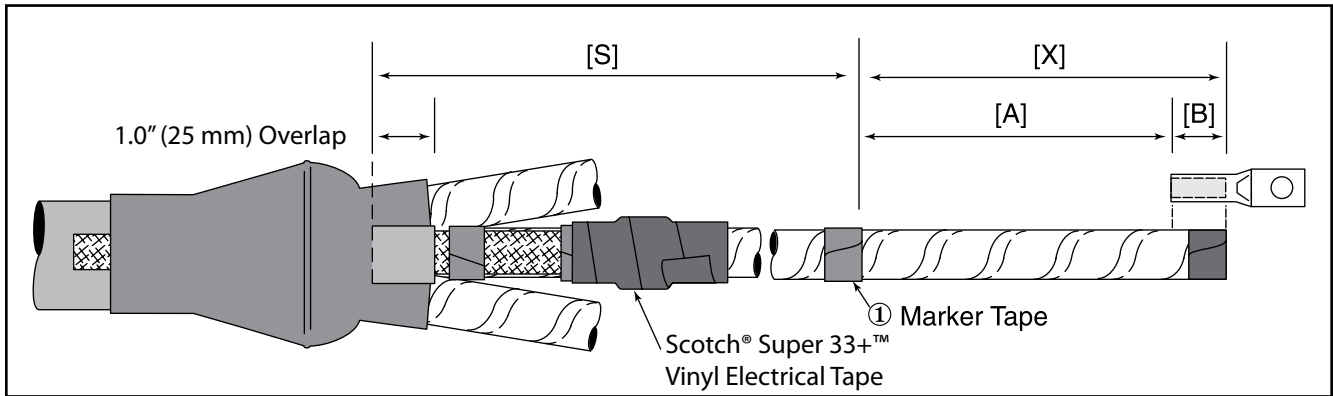

Figure 5
4.2 Place a vinyl tape marker on each cable phase leg at dimension X (① Figure 5).
4.3 Determine required phase rejacketing sleeve length ([S] Figure 5).